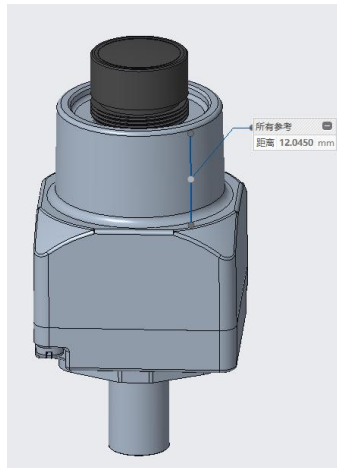

Figure 10 (The height of the protruding part is 12MM as shown in the figure)
- Different focal distance use different lenses, and different lenses correspond to different of lens holder height protrusions, as shown in Figure 10.